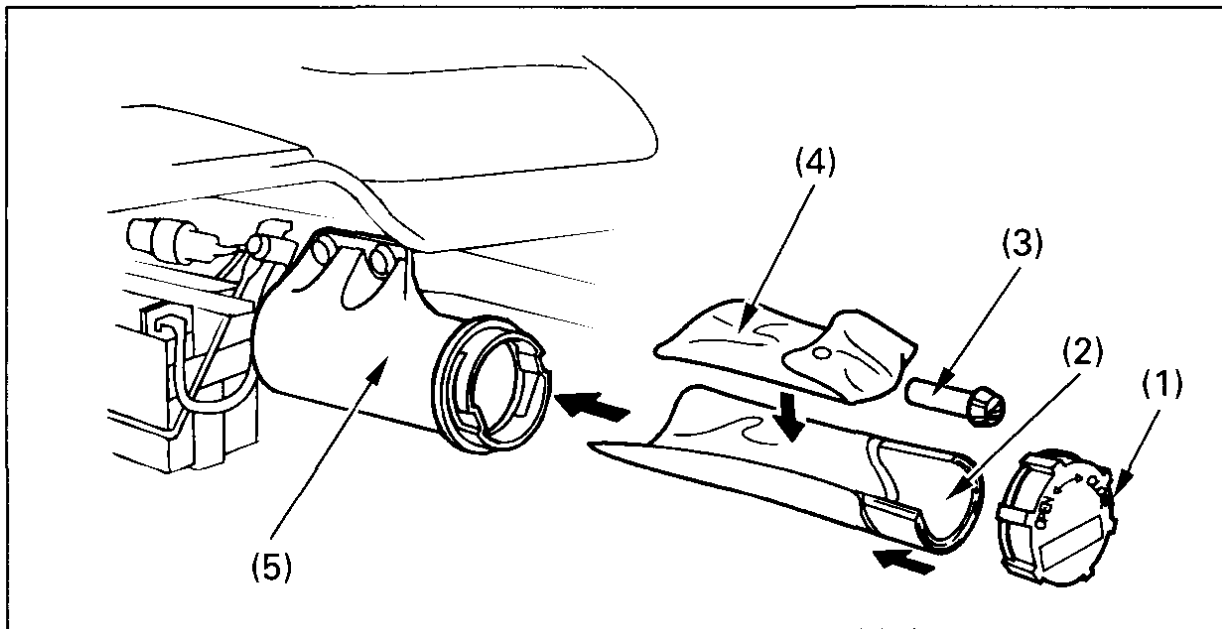

Fig. 2-21
The storage compartment (Fig. 2-21) is below the rear fender. Remove the compartment cover (1) to gain access to the compartment. The Owner's Manual (2), air pressure gauge (3) and tool kit (4) should be stored in the storage compartment.